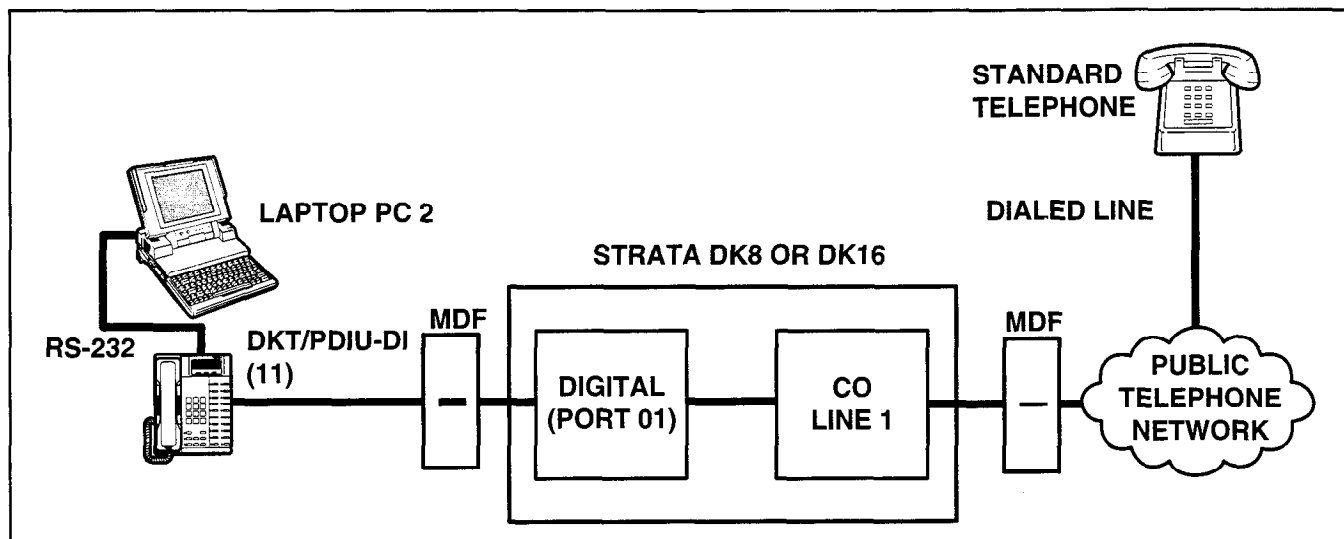

FIGURE 7-38
- 4) From PC 2's keyboard, type **A T D D 1 0** and press **ENTER** (AT commands must be capital letters); this prompts PDIU-DS (14) to dial and connect to PDIU-DI (10).
- The CONNECT LED on the PDIU-DS (14) will be lit; the Data Call and Modem LEDs on DKT 10 will also be lit.
10.86 PC Auto Dial Voice Call Test (see Figure 7-38)